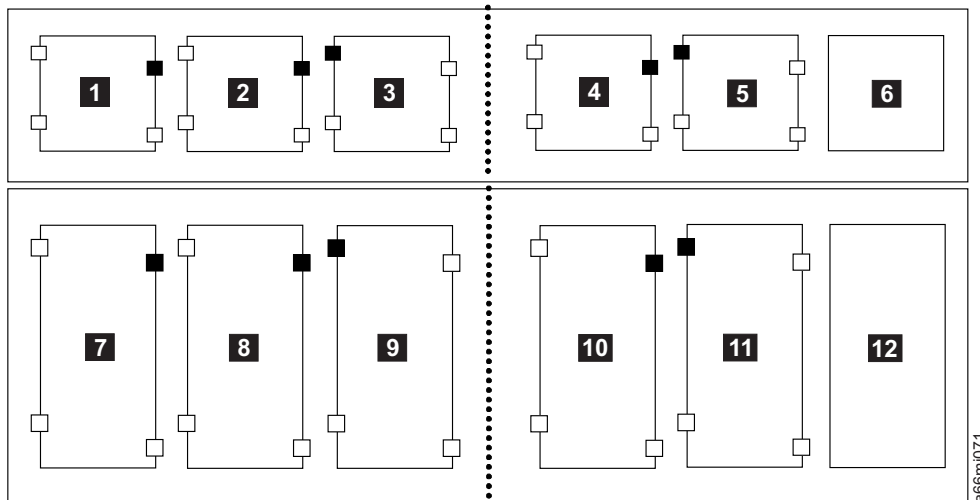

Figure 8-49. Correct fiducial placement
- a. Verify the correct position for the fiducial on the storage column by referring to the small black squares on the larger rectangles in Figure 8-49 on page 8-52.